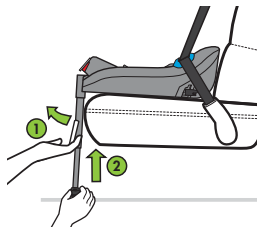

Figure 69
Adjust Load Leg to shortest position by pulling out and holding bottom of Load Leg Adjustment Handle (1) while pushing up on bottom of Load Leg (2), as shown in **Figure 69**.